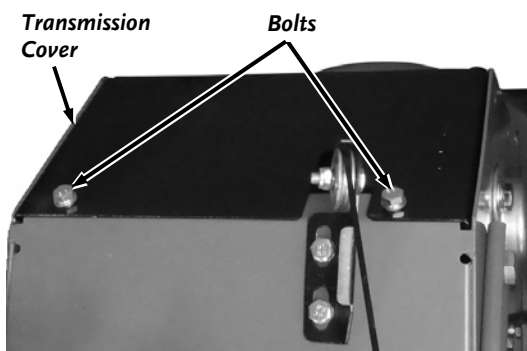

Figure 71
6. Use a 10mm Wrench to remove the two Bolts securing the Transmission Cover and remove the Transmission Cover (**Figure 71**).
11. Install the Transmission Cover (**Figure 71**).